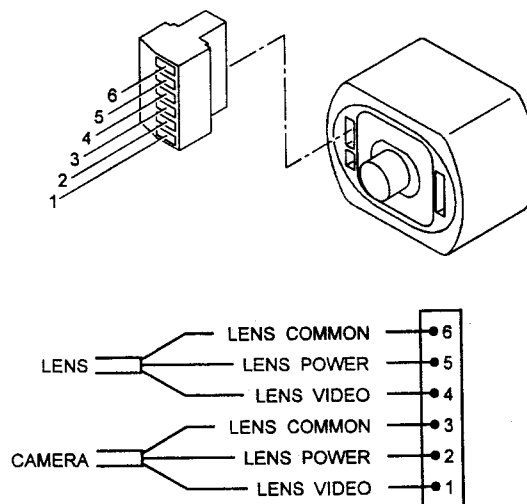

Figure 5. Wiring the Six-Pin Auto Iris Connector
1. Connect the cable from the auto iris lens to the six-pin auto iris connector as shown in Figure 5. Orient the connector wire-locking screws to face away from center as shown.